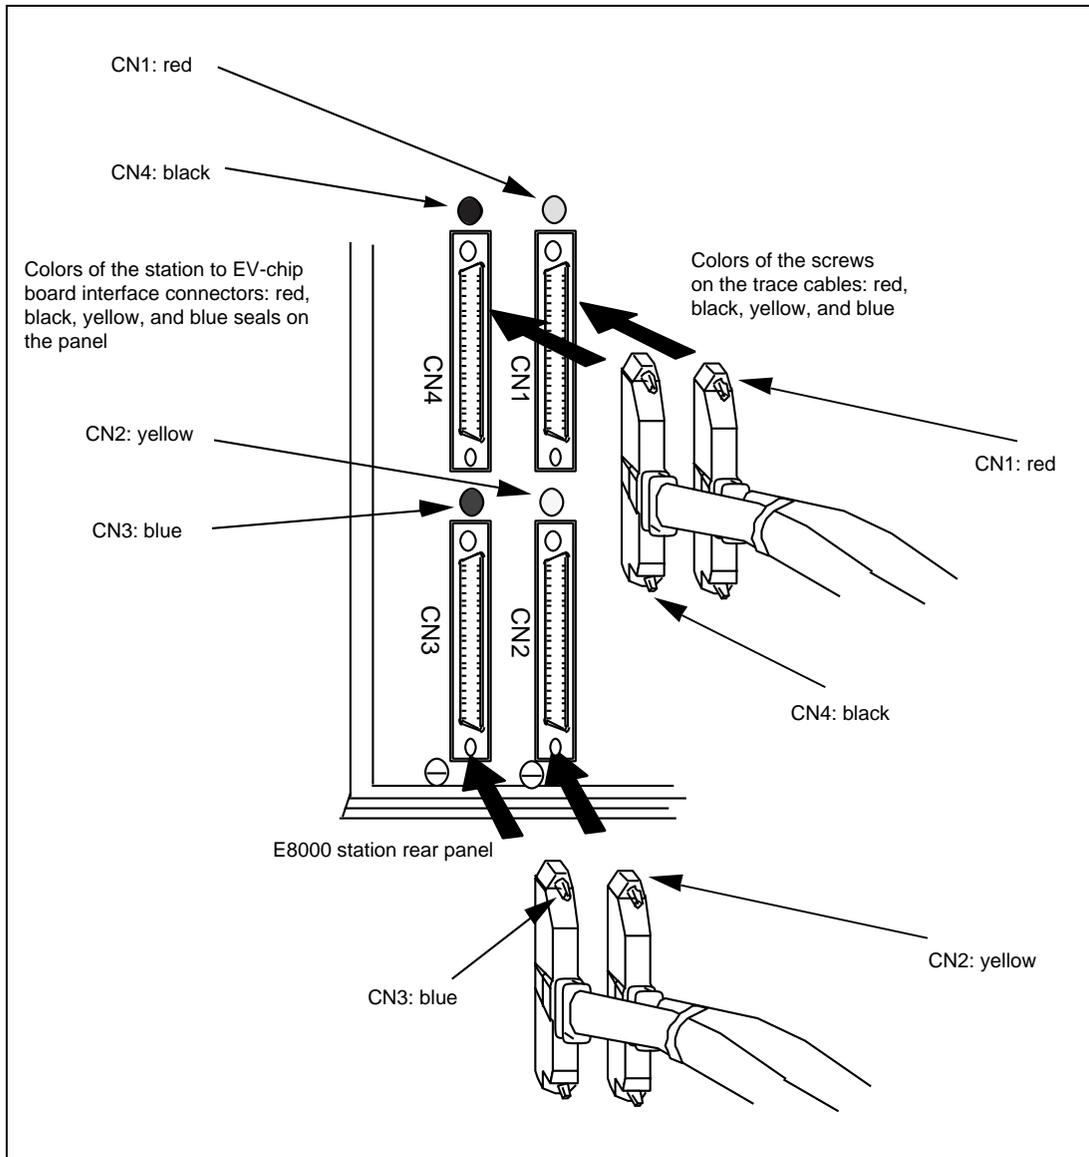

Figure 3.3 Connecting Trace Cables to the E8000 Station
3. Connect the trace cables into the station to EV-chip board interface connectors (CN1, CN2, CN3, and CN4) on the E8000 station's rear panel. Confirm that the shape of the trace-cable plug matches that of the station to EV-chip board interface connector before connecting. Also note which trace cable is connected to which E8000-station connector so that the other end of the trace cable is connected to the matching connector number on the EV-chip board. After the connection is completed, alternately tighten the screws on both sides of the trace cable to prevent the upper or lower side of the trace cable from lifting off the connector. Figure 3.3 shows how to correctly connect the trace cables to the E8000 station connectors.